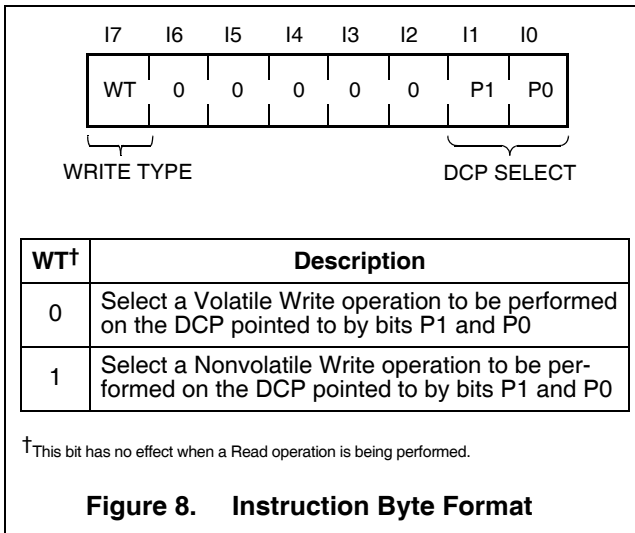

Figure 8. Instruction Byte Format
The Instruction Byte (Figure 8) is valid only when the Device Type Identifier and the Internal Device Address bits of the Slave Address are set to 1010111. In this case, the two Least Significant Bit's (I1 - I0) of the Instruction Byte are used to select the particular DCP (0 - 2). In the case of a Write to any of the DCPs (i.e. the LSB of the Slave Address is 0), the Most Significant Bit of the Instruction Byte (I7), determines the Write Type (WT) performed.